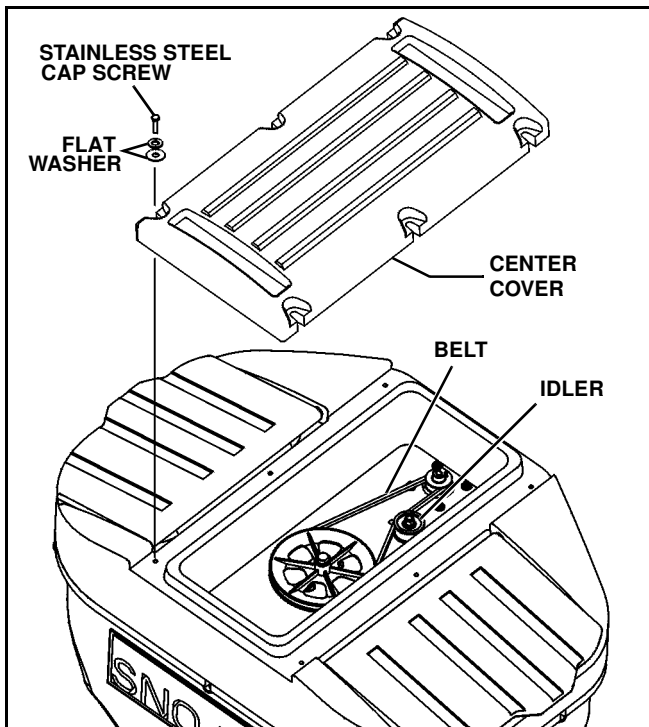

Figure 2-2
3. Remove center cover from hopper by undoing the six stainless steel cap screws that hold down the cover. (See Figure 2-2)